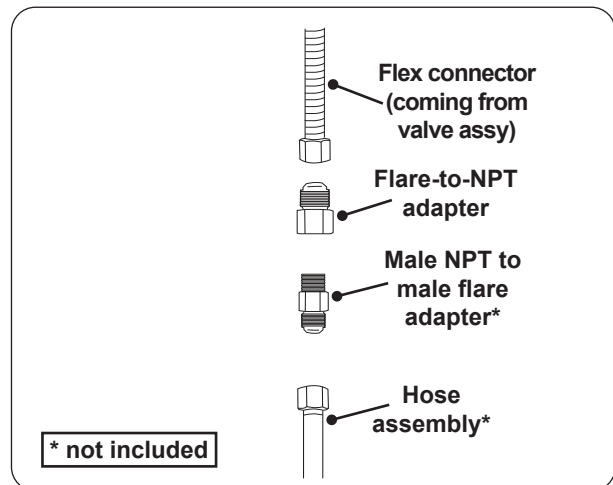

Fig. 38-1 Connecting flex to hose assy
1. Connect the L.P. regulator hose assembly (not included) to the flex connector that is coming off of the valve assembly (see Fig. 38-1).